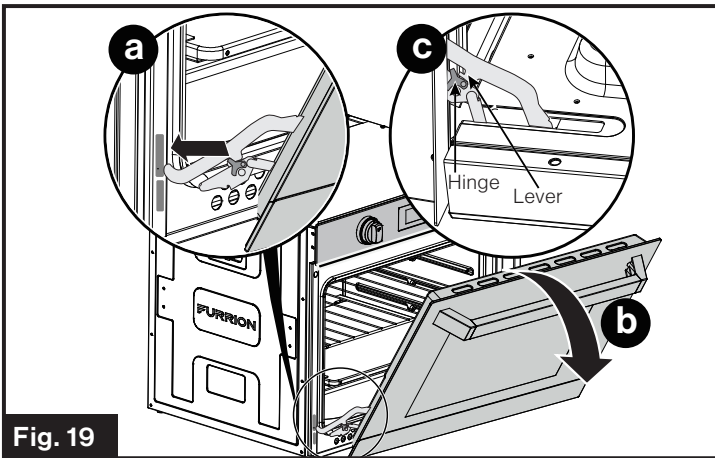

Fig. 19
7. Follow the steps below to re-attach to the oven door (Fig. 19):
- Insert the hinge into the top slot as shown in Fig 19 **a**.
- Open the door to its fully open position as shown in Fig 19 **b**. Ensure the hinge buckle has released from the lever as shown in Fig 19 **c**.